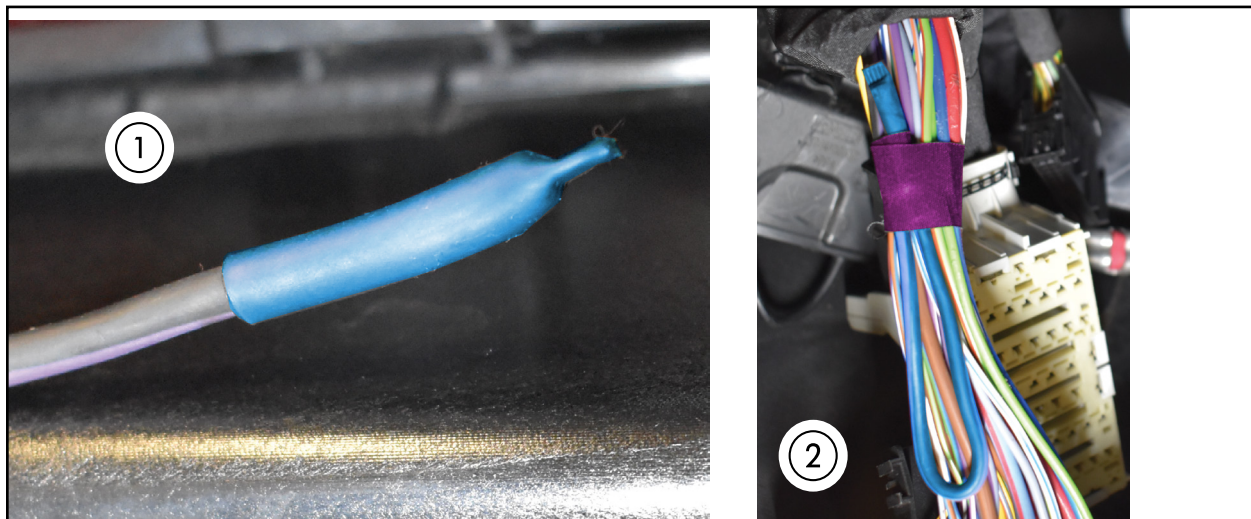

FIGURE 20
22. Add Dual Wall Heat Shrink tubing to cover open end of the black-violet wire. Bend the circuit with heat shrink into the bundle and secure with Coroplast tape. See Figure 20.